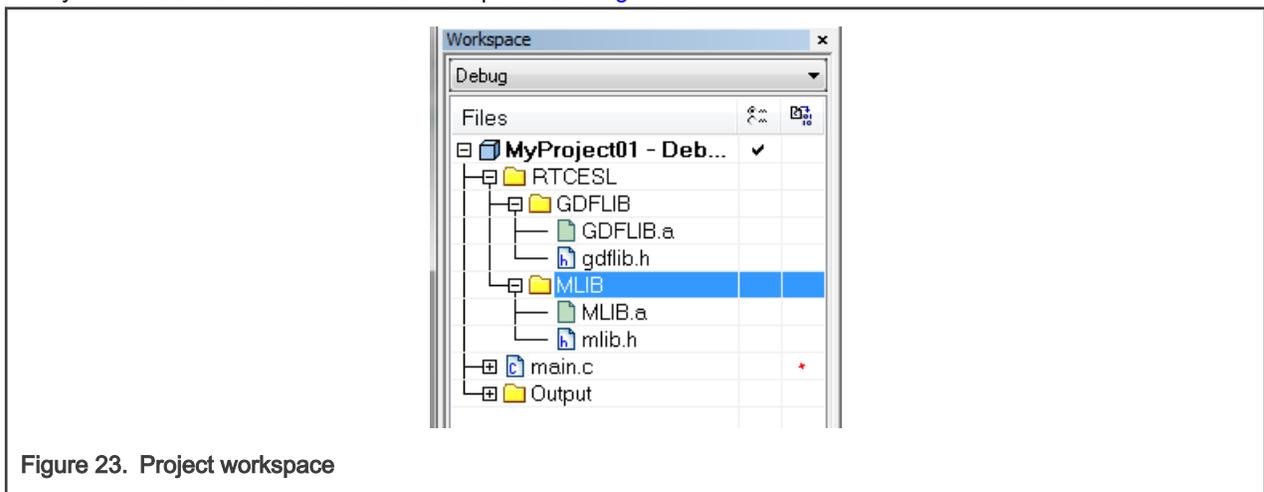

Figure 23. Project workspace
4. Click on the newly created node MLIB, and go to the main menu Project > Add Files... See Figure 23.
- Now you will see the files added in the workspace. See Figure 23.